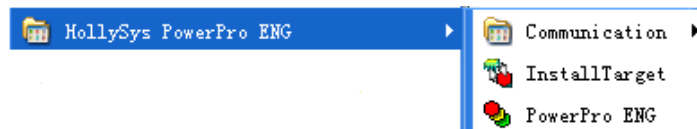

Figure 1-3-1 Install Target (1)
- Click “Start”/“Programs”/“Hollysys PowerPro ENG”/“Install Target” on the desktop, as shown in figure 1-3-1.